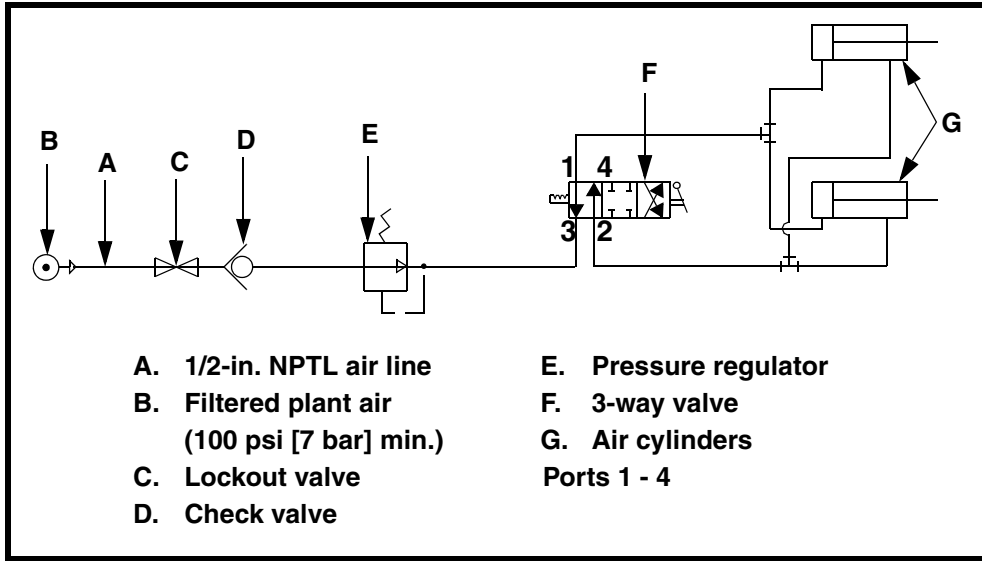

Figure 7. Air Cylinder Schematic
1. Install air line to air tensioner as shown in Figure 7.
- a. Install air line from port 1 on 3-way valve into one of two ports on air cylinder (G). Route air line to far side and install in same port on far side air cylinder.